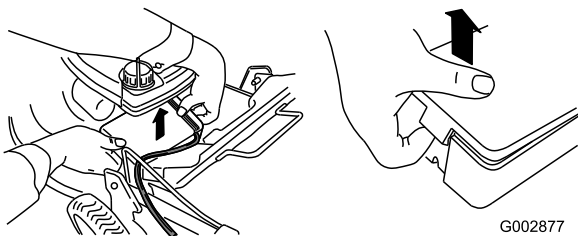

Figure 46
1. Unclip both ends of the battery cover and remove it (Figure 46).